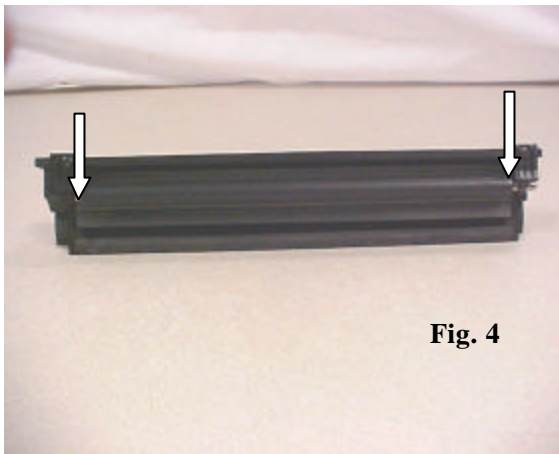

Fig. 4
5. To remove the PCR from the waste hopper sub-assembly, simply remove the two screws from the PCR support bracket. This also allows you access to the wiper blade screws (Fig. 4).